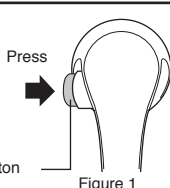

Figure 1
(1) How to adjust to maximum water flow rate.
- Step 1: Push the PUSH ON-OFF Button and select Wide Shower type on the Shower Head using the Shower Select Button (refer Figure 1).